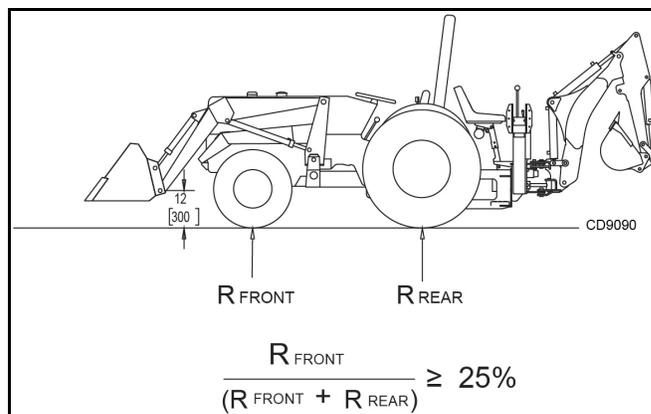

Figure 3.Backhoe Stability Calculation
■ Weigh the tractor and equipment as shown in Figure 3. The weight on the front tires, divided by the total weight on both front, plus rear tires, must be at least 25%.